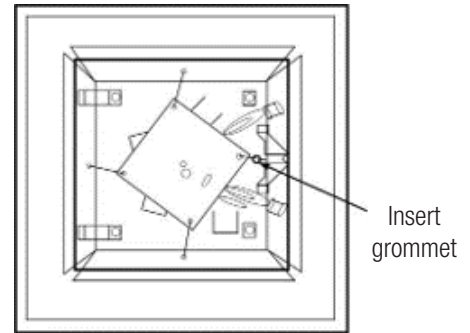

Fig. 3
6. Insert grommet into the hole in the diffusion plate behind the appearance panel clip bracket (see Figure 3).